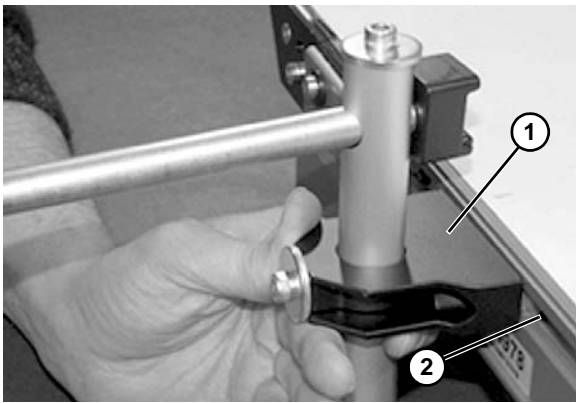

Figure 67
1. Install guide bracket assembly (**Figure 67, item 1**) into the conveyor T-slot (**Figure 67, item 2**).